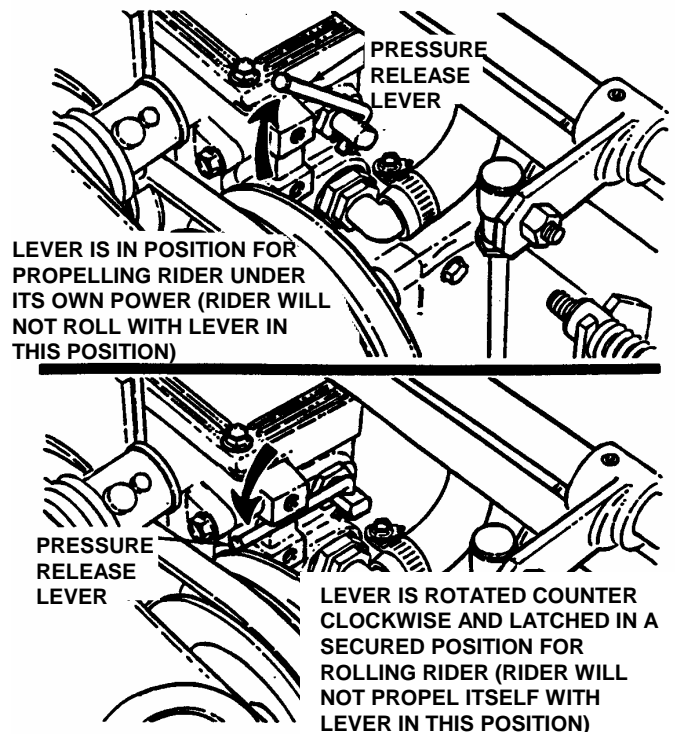

FIGURE 2.3
**ROLL RELEASE:** To roll the machine without the engine running, pressure within the hydraulic pumps must be released. There is one lever on the upper right side of each pump that is used to release the pressure. Rotate lever counter clockwise and secure in that position. See Figure 2.3.